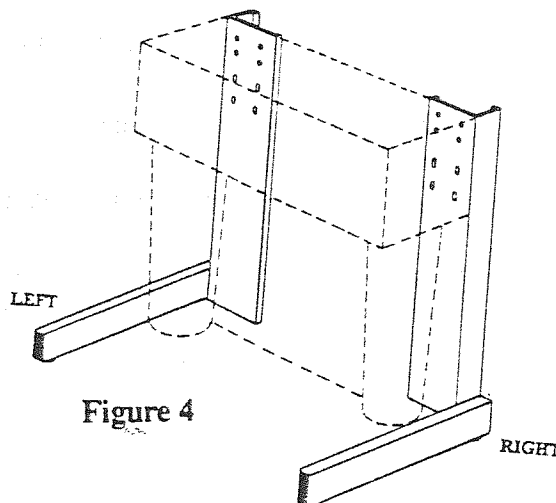

Figure 4
- (1) Locate the following hardware from the plastic bag:
- (2) Carefully unpack WaterPro RO from box.
- (3) Remove left and right leg assemblies of stand from box. See Figure 4.
- (4) Place RO unit so that it lays front panel down on a padded surface. Support the bowls so that they are horizontal. This can be accomplished by using the packaging specifically designed for the bowls from the shipping box.
- (5) Align the holes in the stand legs with four smaller threaded holes in the back of the housing now facing the operator. There are two screws per leg. See Figure 4 below. Note: Normally the outer column of holes should be used. The inner column holes are to be used if optional 70 liter tank will be placed behind the RO station.
- (6) Repeat for all four holes and pull unit to standing position.
- (7) Unit is now ready for further installation.